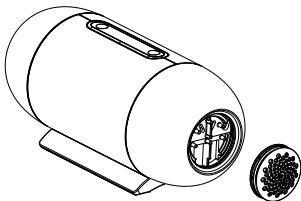

Fig 15-3
2. Open the air filter cap to remove the air filter, as shown in Fig. 15-3.